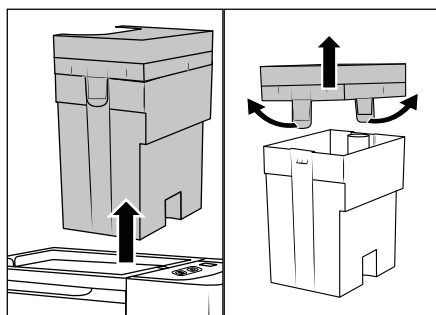
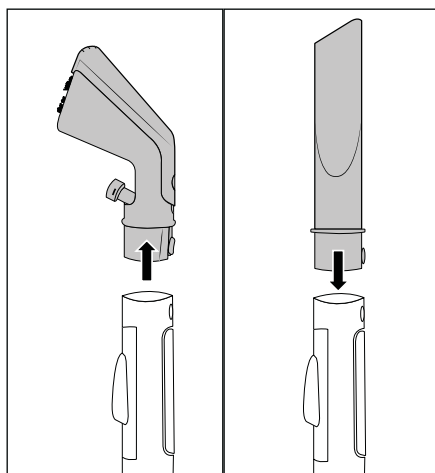

Fig. 7
Fig. 8
- ❗ **Note:** Empty the dirty water tank ⑦  as soon as the dirty water has reached the MAX marking. When emptying the dirty water tank ⑦  make sure that the drain (e.g. the wash basin) is not blocked by hair or coarse dirt.
- ◆ Hold the dirty water tank ⑦  by the handle of the lid ③ and pull it upwards out of the appliance (see Fig. 7).
- ◆ Pull the two retaining tabs slightly outwards and remove the lid ③ (see Fig. 7).
- ◆ Hold the dirty water tank ⑦  firmly with one hand and pull the insert ⑤ upwards with the other hand.
- ◆ Rinse the dirty water tank ⑦  in warm running water.
- ◆ Remove the EPA filter ④ from the insert ⑤.
- ◆ Clean the lid ③, EPA filter ④ and insert ⑤ with the float ⑥ under warm running water. If necessary, use a mild detergent.
- ◆ Allow the lid ③, EPA filter ④ and insert ⑤ with the float ⑥ to dry completely.
- ◆ Once the parts have dried, place the insert ⑤ on the dirty water tank ⑦  and press it all the way down until it is firmly in place.
- ◆ Place the EPA filter ④ in the recess of the insert ⑤.
- ◆ Place the lid ③ on the dirty water tank ⑦  and press it down until the two retaining tabs click into place.
- ◆ Hold the dirty water tank ⑦  by the handle of the lid ③ and insert it into the appliance.
- ◆ Press the locking button 25/32 and pull the upholstery nozzle 22 or crevice nozzle 29 off the spray/suction hose 19 (see Fig. 8).